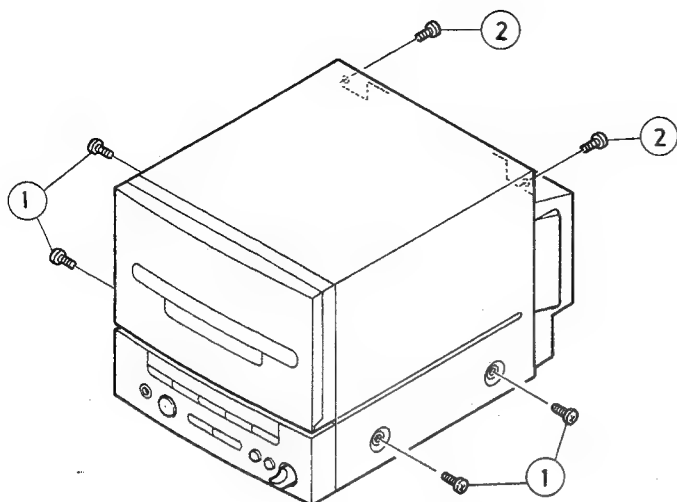
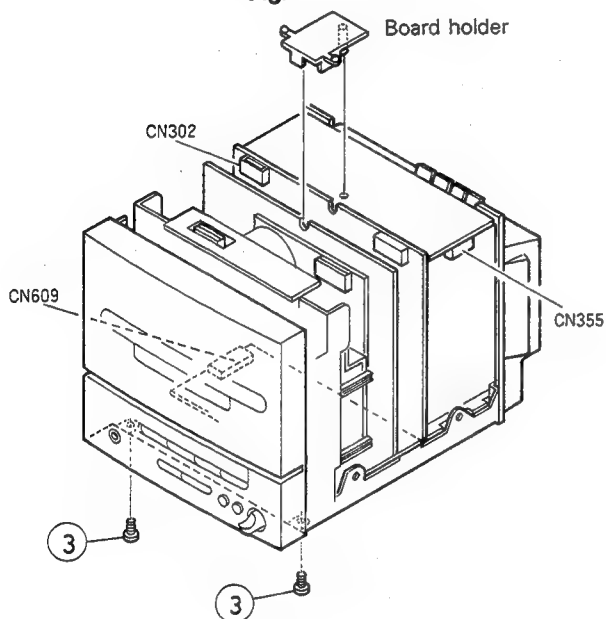
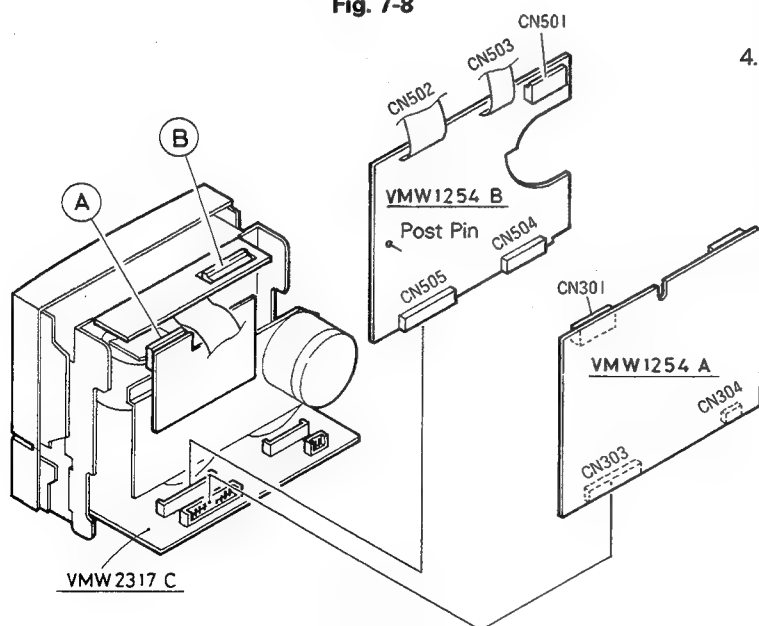
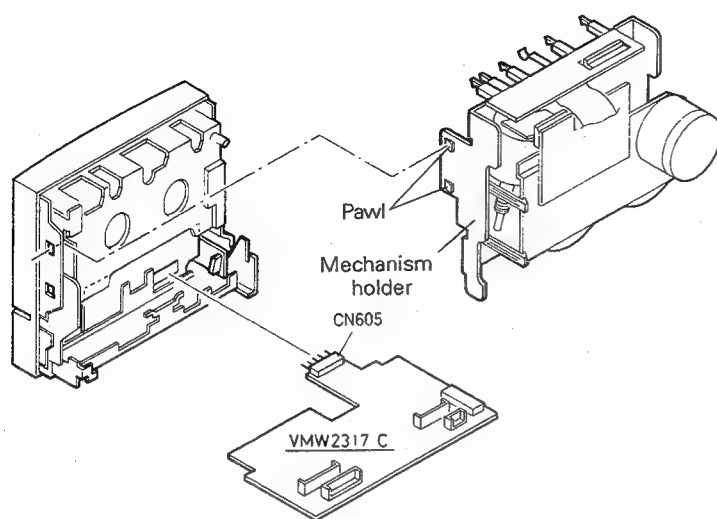

Fig. 7-7
Fig. 7-8
Fig. 7-9
Fig. 7-10
1. Remove six screws ① and ② retaining the metal cover. (Fig. 7-7), (Fig. 7-8)
3. Remove two screws ③ retaining the front panel, the bottom cover and the jack holder together with.
■ Deck section (Fig. 7-9), (Fig. 7-10)
1. Disconnect the 8-pin parallel wires coming from CN502 of the mechanism control board (VMW1254B) from the connector (A) of the reel motor board (VMW3272A) attached to the mechanism.
2. Disconnect the 7-pin parallel wires coming from CN503 of the mechanism control board (VMW1254B) from the connector (B) of the cam switch board (VMW3273A).